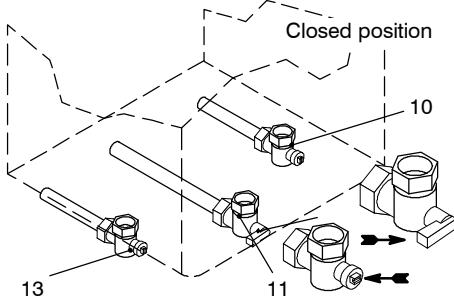

Fig. 9.3
- 1 Close the c.h. isolating valves (10 and 13 in Fig. 9.3).